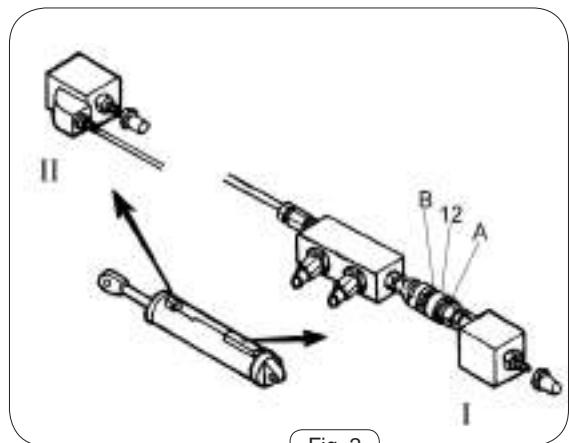

Fig. 2
## 3 REGULATION OF THE CYLINDER SPEED. (Fig. 2)
La válvula reguladora de caudal (12) está dispuesta en el cilindro (Fig. 2), para regulación de la velocidad de descenso.
The flow regulation is made by means of a flow valve (fig.2) placed in the cylinder to control the descent speed. This regulation is made by loosening the counternut (A) and rotating the valve's body in the clockwise sense, in order to increase the speed. To decrease the speed, proceed on the contrary, i.e. unclockwise. Once the regulation has been made, the valve will be blocked with the counternut (A).